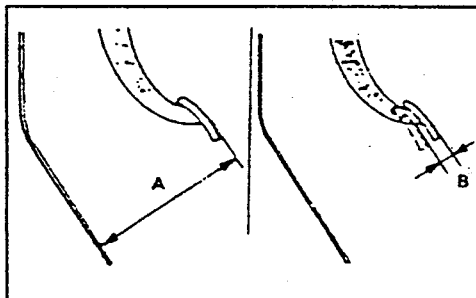
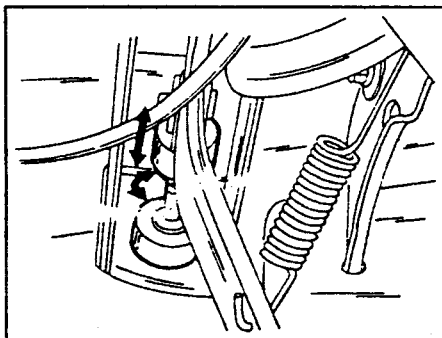

Fig. 6.2. — Measure the clutch pedal height (A) and the clutch pedal free play (B) at the positions shown.
Fig. 6.3. — Adjusting the clutch pedal height and the clutch pedal free play on the master cylinder push rod.
- Measure the clutch pedal height "A" in Fig. 6.2 between the pedal rubber and the floor board. If the dimension is outside the values given, slacken the stop bolt locknut at the upper end of the clutch pedal and turn the bolt until the correct height is obtained. If the pedal height is too low, slacken the locknut of the master cylinder push rod (2) in Fig. 6.3 and rotate the push rod (1) to raise the clutch pedal. Then use the stop bolt to adjust to the value given. The pedal free play must now be checked and if necessary adjusted.
- Grip the clutch pedal between thumb and forefinger and move it as shown by "B" in Fig. 6.2. This play represents the free clearance at the master cylinder push rod which should be between 1 and 3 mm (0.04 - 0.12 in.). If no clearance can be felt, tighten the clutch pedal stop bolt until it just contacts the pedal stop and tighten the locknut.
- Rotate the push rod (Fig. 6.3) until the clearance of 1 to 3 mm is obtained when the push rod is moved in and out. Tighten the locknut. Care must be taken not to screw the push rod too far into the cylinder.
- After completing the adjustment, move the clutch pedal up and down as shown by "B" in Fig. 6.2. There should now be a free play of 6 - 13 mm (0.24 - 0.5 in.) before the push rod can be felt to push against the master cylinder piston.